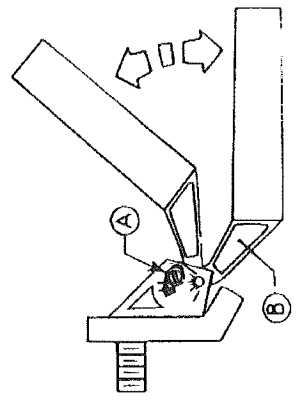

FIG. 7
14. Adjusting the water level (Please see Fig. 7)